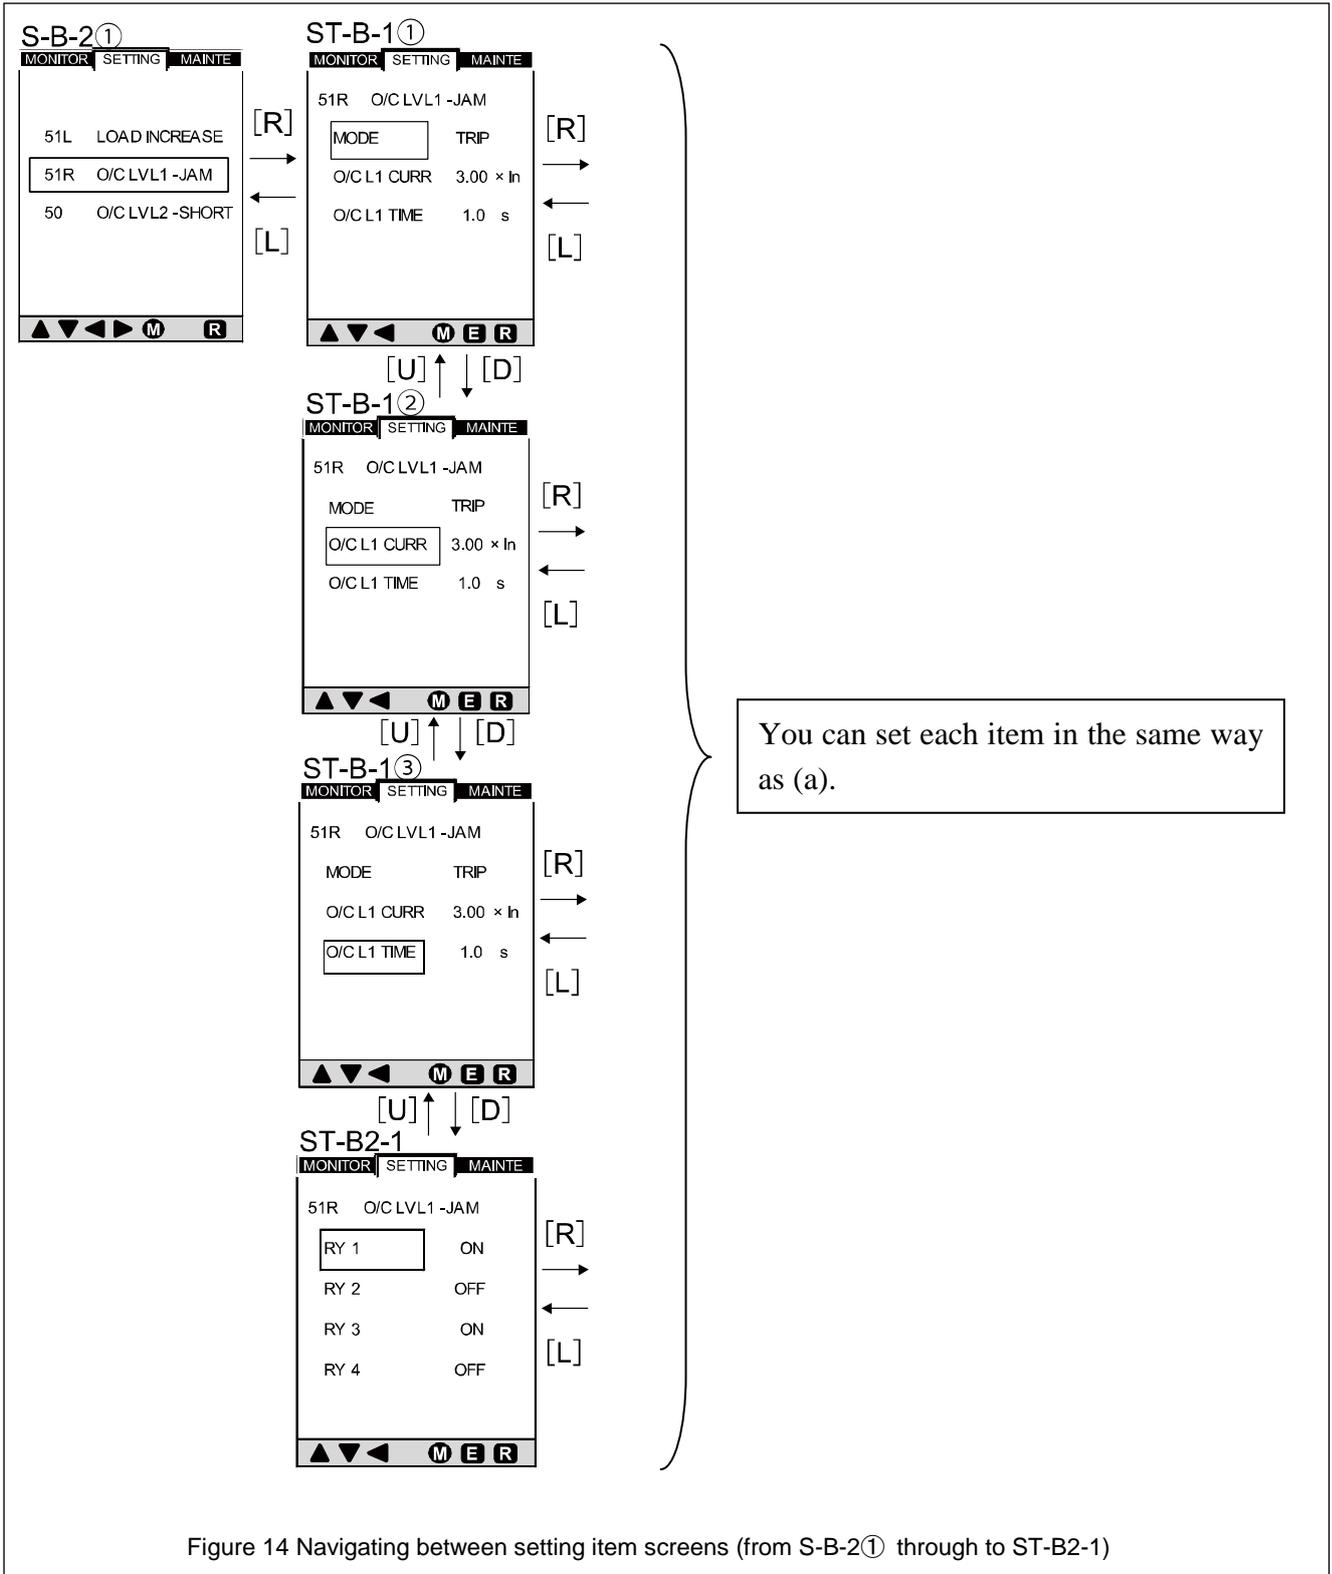

Figure 14 Navigating between setting item screens (from S-B-2① through to ST-B2-1)
Figure 14 shows how to navigate between setting item screens (from S-B-2① to ST-B2-1). See Table 9 for items that are actually displayed on the screen.